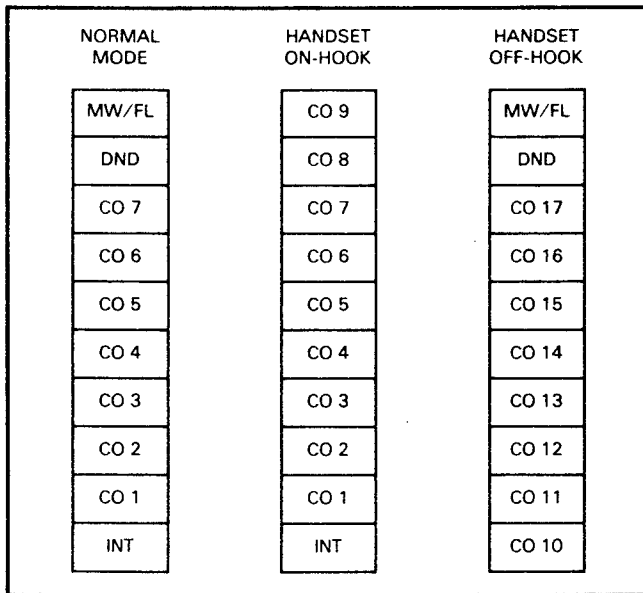

FIGURE 1—10-key EKT KEY FORMAT
02.33 As shown in Figure 1, the key/LEDs represent INT, and CO 1 ~ 9 when the handset is on-hook and CO 10 ~ 17, DND, MW/FL when the handset is off-hook. It is possible to switch back and forth an unlimited number of times without disturbing the data.